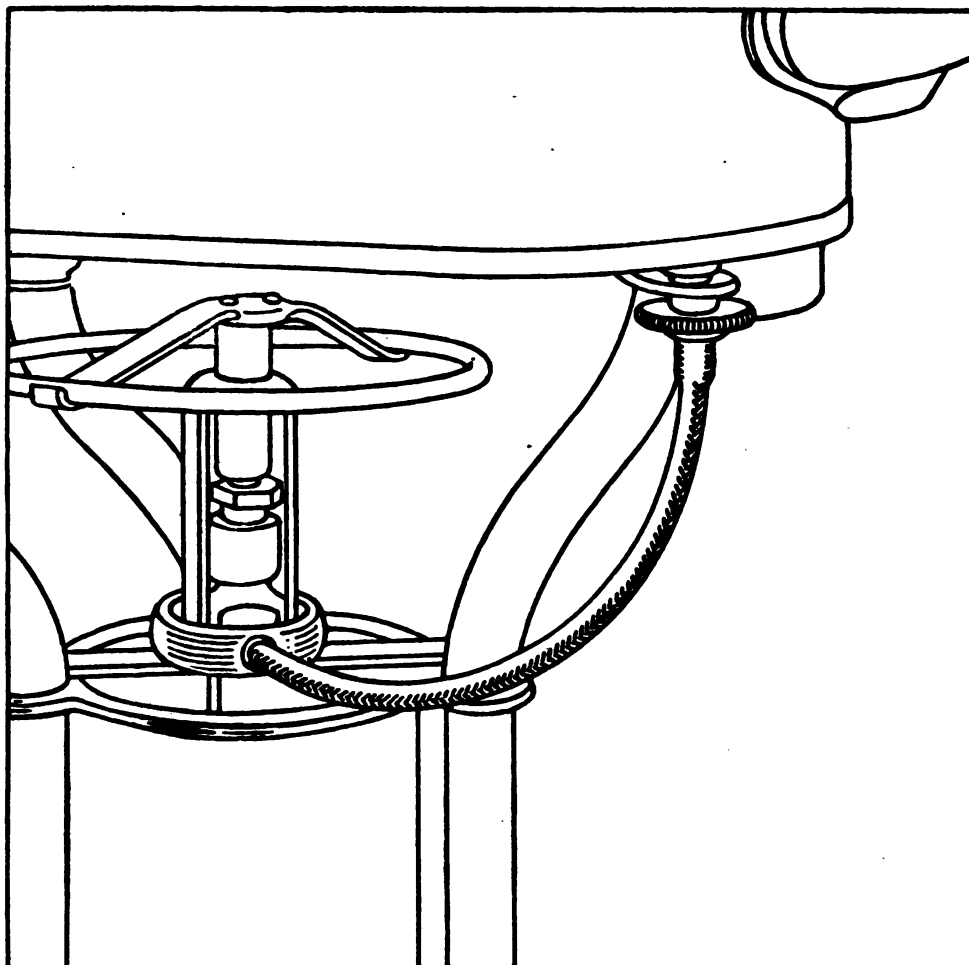

Figure 6. Direct connection oxygen cylinder to apparatus.
- (3) *To connect oxygen cylinder.* (a) Insert the end of the flexible oxygen tube into the oxygen inlet on the bottom of the tester. (See fig. 6.)